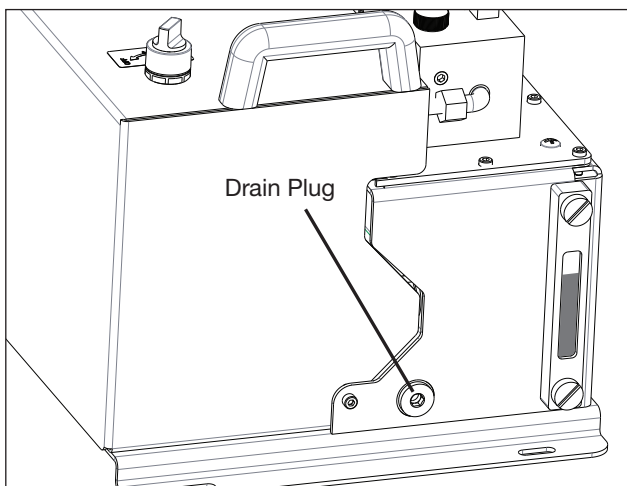

Figure 13 - Drain Plug
4. Slowly unscrew the oil drain plug and remove it. See Figure 13. Allow the old oil to flow into the container.